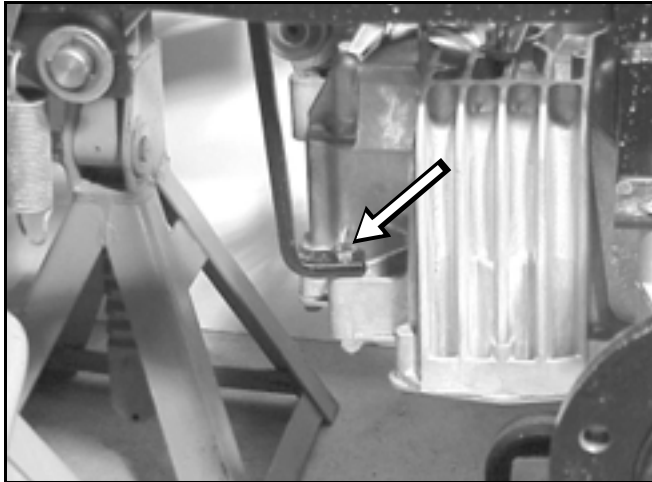

Figure 132
3. Install the bolt, washer, and nut through the front of the transaxle to the torque strap (Figure 132).